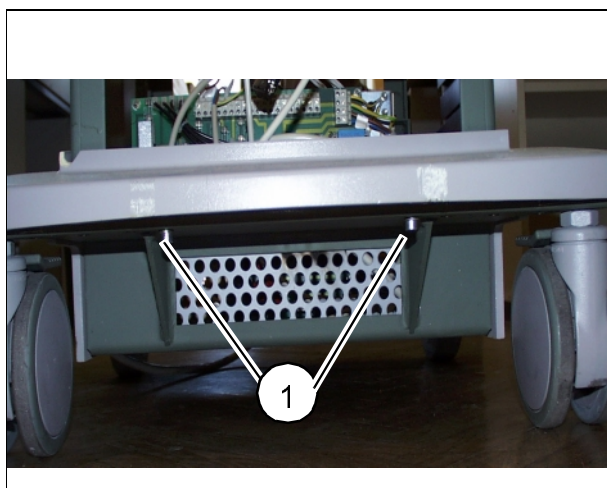

Fig. 1
- Loosen the covers (1/Fig. 1); two screws are also located on the other side.